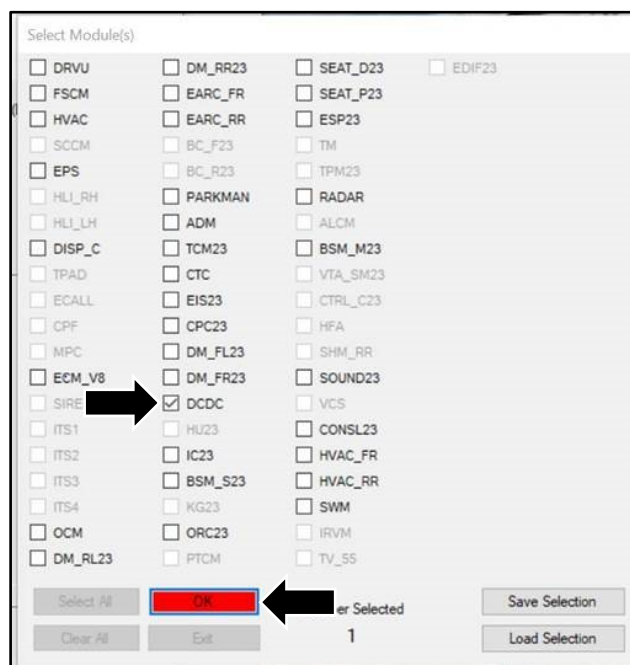

Figure 6
13. Select "DCDC" then click "OK" (refer to Figure 6).